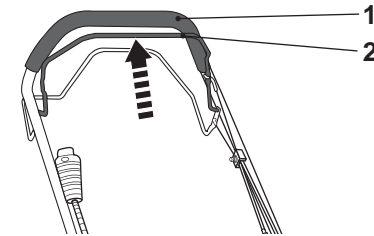

Fig. 23
- Pull the brake bar (2) towards the handle (1) and hold it in position, when starting the engine. Keep it squeezed during operation (Fig. 23).
- Release the brake bar (2) to stop the engine.